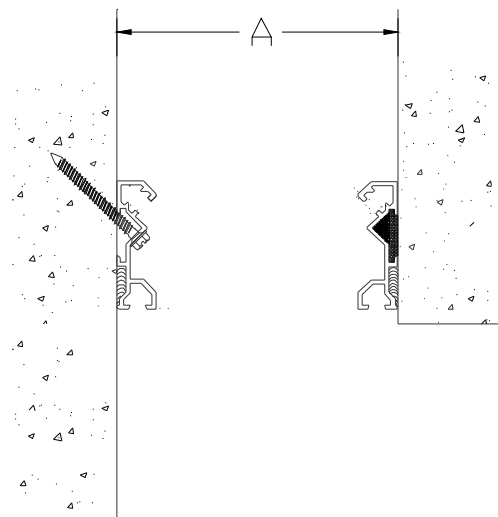

Figure 8
STEP 10. Place the base member into its installed position. Ensure that the base member is level, straight, properly aligned with the anchored base member, and recessed 1/8" from the front surface of the wall, see Figure 8.